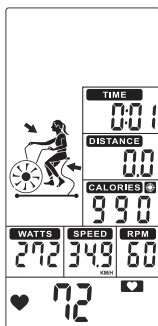

FIGURE 44
3. Preset CALORIES value counts down, TIME, CALORIES, WATTS, SPEED, RPM start counting. (Figure 44).